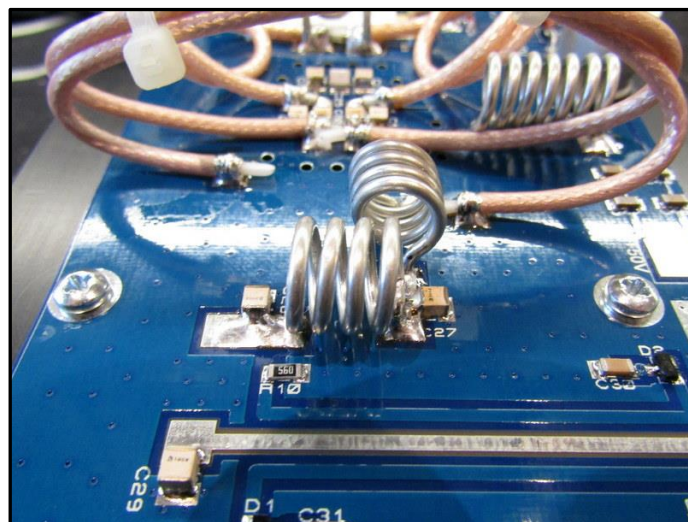

Figure 14: L9 Position.
16. Fold back the earth braid on the second piece of RG316 and solder but do not strip and prepare the centre conductors. Solder one end of the coax at the pad nearest C21 (this is also the centre conductor of the coax mounted in step 14). Solder the other end to the isolated ground pad below and to the right of C22. When this step is finished you should only have coax earth braid connected between C21 and ground, forming Z5. See figure 14. Cable-tie and secure the two coax sections together.